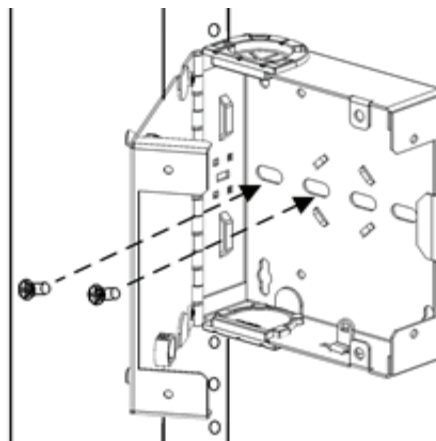

Figure 2
- 4) Using provided #8 screws and washers provided in the mounting bracket kit, secure enclosure base to bracket. (Figure 2).